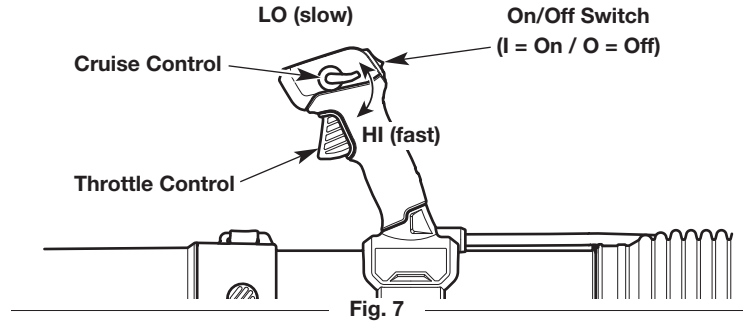

Fig. 7
**NOTE:** There is no need to turn the unit on. The On/Off switch is in the **On (I)** position at all times (Fig. 7).
3. Move the cruise control to the **HI (fast)** position (Fig. 7).
**NOTE:** Keep the cruise control in the **HI (fast)** position for **ALL** further steps (Fig. 7).
2. Press and hold the On/Off switch in the **Off (O)** position until the engine comes to a complete stop (Fig. 7).
- Use the cruise control to make continuous operation easier (Fig. 7).